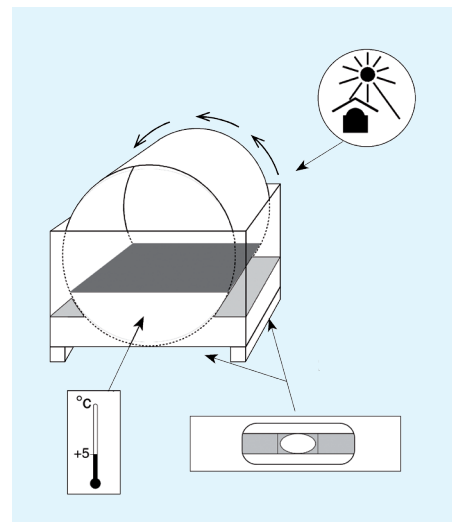

Figure 4.1 Filter installation
- The filter must be properly levelled in both directions (see figure 4.1).